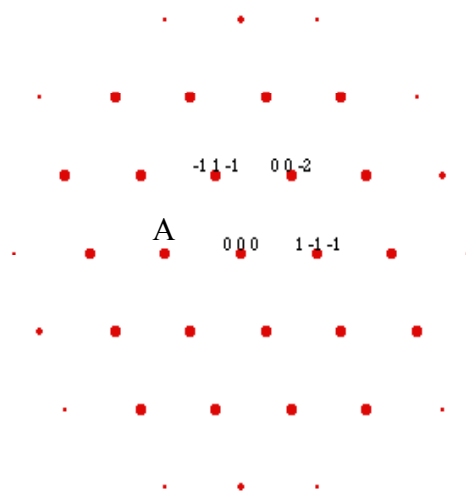

Fig. 1. Diffraction pattern from a gold crystal with the electron beam incident along the [110] direction.
The diffraction pattern in Fig. 1 is obtained for a gold crystal with the electron beam incident along the [110] direction in a TEM operated at 200 kV.
- Draw the Kikuchi lines corresponding to the 6 diffraction spots closest to 000 in Fig 1. (1p)
- What happens to the pattern in Fig 1 if the acceleration voltage is reduced to 100 kV? (1p)